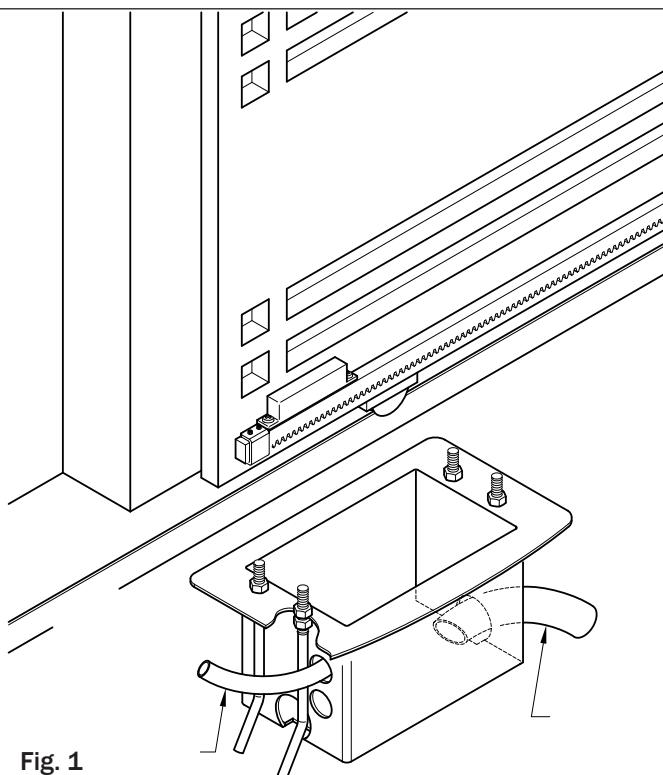

Fig. 1
- Fit the anchor bolts into the 4 holes in the foundation plate and fasten with the 4 nuts as shown in figure 1.
- Togliere i due gusci copriviti [A] svitando le due viti M6 [B], come indicato in fig. 1.
- Enlever les deux coques couvre-vis [A] dévisser les deux vis M6 [B], comme indiqué sur la fig. 1.
- Remove the two screw caps unscrewing the two M6 screws [B] as shown in fig. 1.